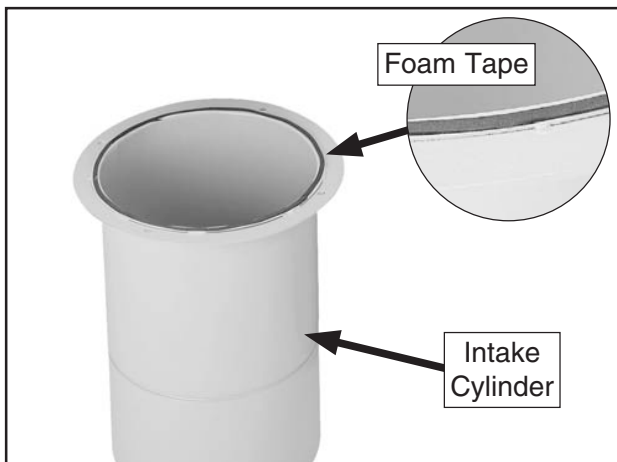

Figure 16. Foam tape stuck on intake cylinder.
2. Attach the 3 x 6mm foam tape to the top of the intake cylinder, as shown in **Figure 16**.